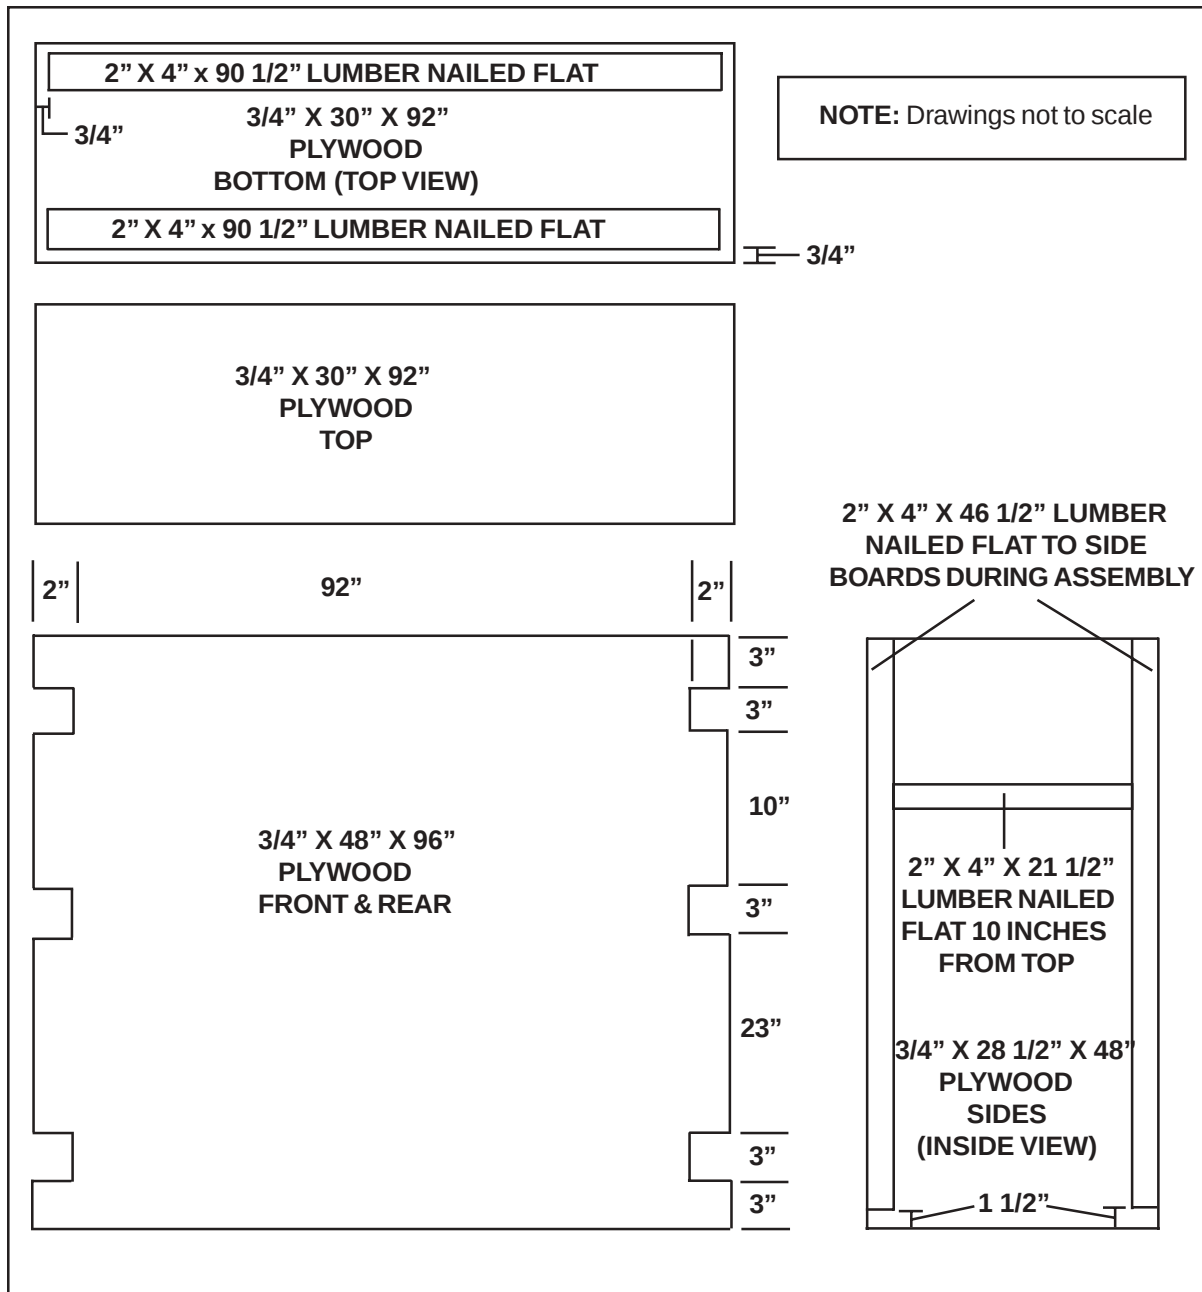

Figure 4-93. Front Equipment Box Built
4-61. Build the front and rear equipment boxes as shown in Figures 4-93 and 4-94.
a. Build the front equipment box using 16d nails and as shown in Figure 4-93.